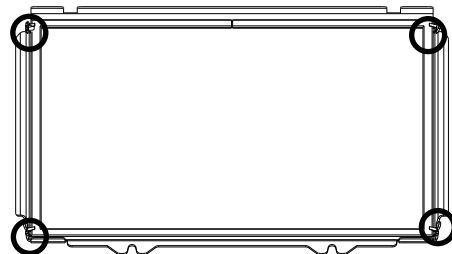

Figure 17.1.
5. The glass panel is held in place by four tabs on the frame. Use a screwdriver or small pliers to pry these up enough to release the glass panel. See fig. 17.1.